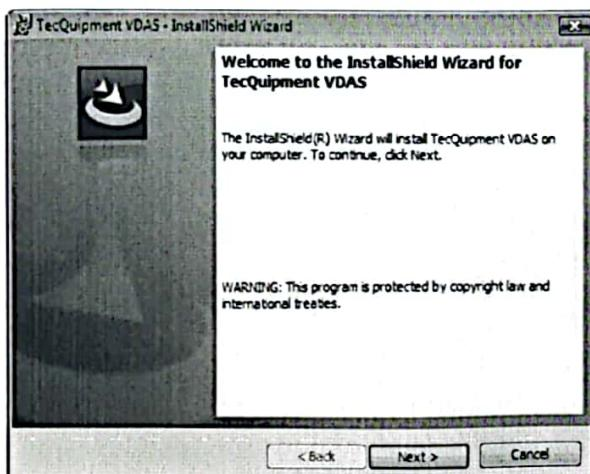

Figure 13 First VDAS Installation Screen
- When the .NET Framework has installed, (or if you already have it installed) the first screen of the TecQuipment software will appear as in Figure 13. Click on the 'Next' button and obey the instructions of the next screens.